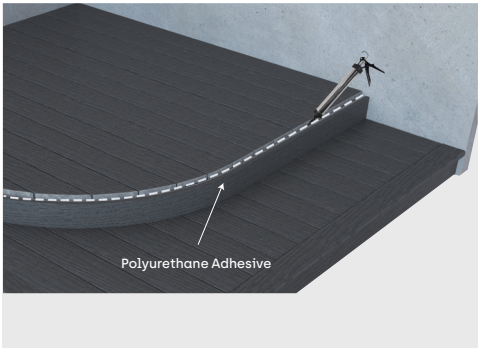

Figure 3-7
- 6. Install the second-layer curved platform with 50×25 mm curved edge trim boards. Before installing the edge trim boards, apply a bead of polyurethane sealant along the inner corner at the top of the supporting joist (recommended bead diameter ≤5 mm to prevent overflow and staining) to enhance the stability of the edge trim boards. As shown in Figures 3-7 and 3-8.